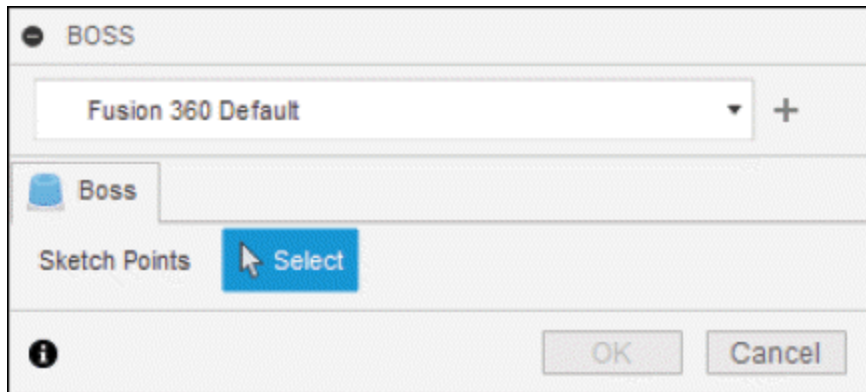

Figure-153. BOSS dialog box
- Click on the **Continue** button to create the boss feature without creating the fastener. The **BOSS** dialog box will be displayed; refer to Figure-153.